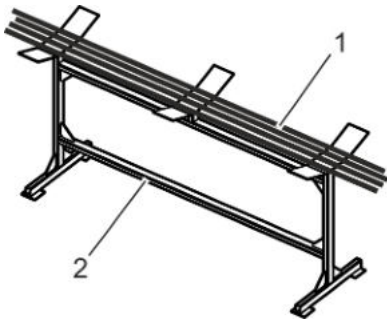

Fig. 40: Longitudinal wire holding tray
1. Place the new wire bundle on the stand (Fig. 40/2).